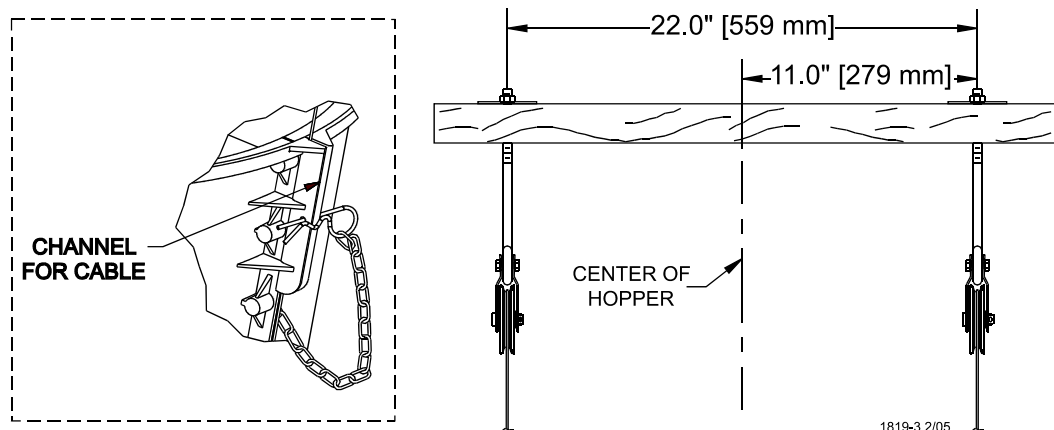

Figure 20. Pulley Installation
- Install two pulleys to either a 2" x 8" [50x200 mm] board that will span at least 3 rafters or a 3/8" [9.5 mm] thick steel plate welded to two pieces of angle iron that are long enough to span at least 2 rafters. Install the pulleys directly above the feeder line where the hopper is to be located. The pulleys should be spaced 22" [559mm] apart (11" [279 mm] from the center of the hopper in both directions), see **figure 20**.